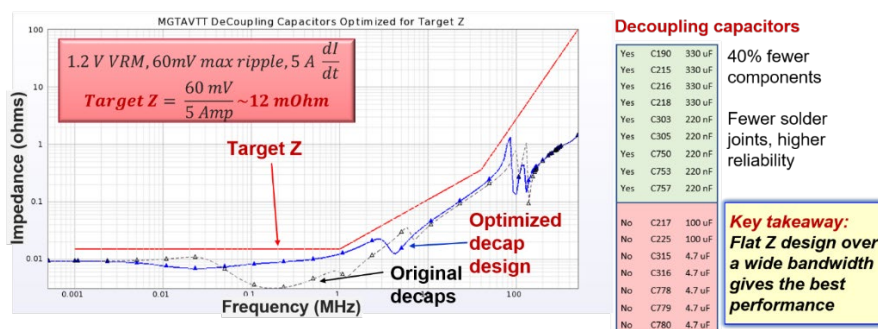

Figure 1. In this FPGA example, 60 mV ripple divided by 5 A gives a target impedance of 12 mOhms
Power integrity (PI) engineers use target impedance to design power delivery across a broad frequency range. Target impedance is a simple estimate using the maximum allowed ripple divided by the maximum expected current step load. For example, in a field programmable gate array (FPGA) where the max ripple is 60 mV and the max current step load is 5 A, the target impedance (Z) is 12 mΩ (Figure 1).
Figure 1 shows a plot of the impedance versus frequency for a 1.2 V power rail with the target impedance mask in red. The Target Z in red shows the flat region where the power supply and printed circuit board (PCB) PDN must deliver power to the load. The first breakpoint, around 1 MHz, shows the frequency at which the internal package / die capacitance is starting to provide power to the load. The second breakpoint shows that the spectral content of the load is rapidly diminishing with frequency. Higher PDN impedances are allowed as the load  $di / dt$  goes to zero.